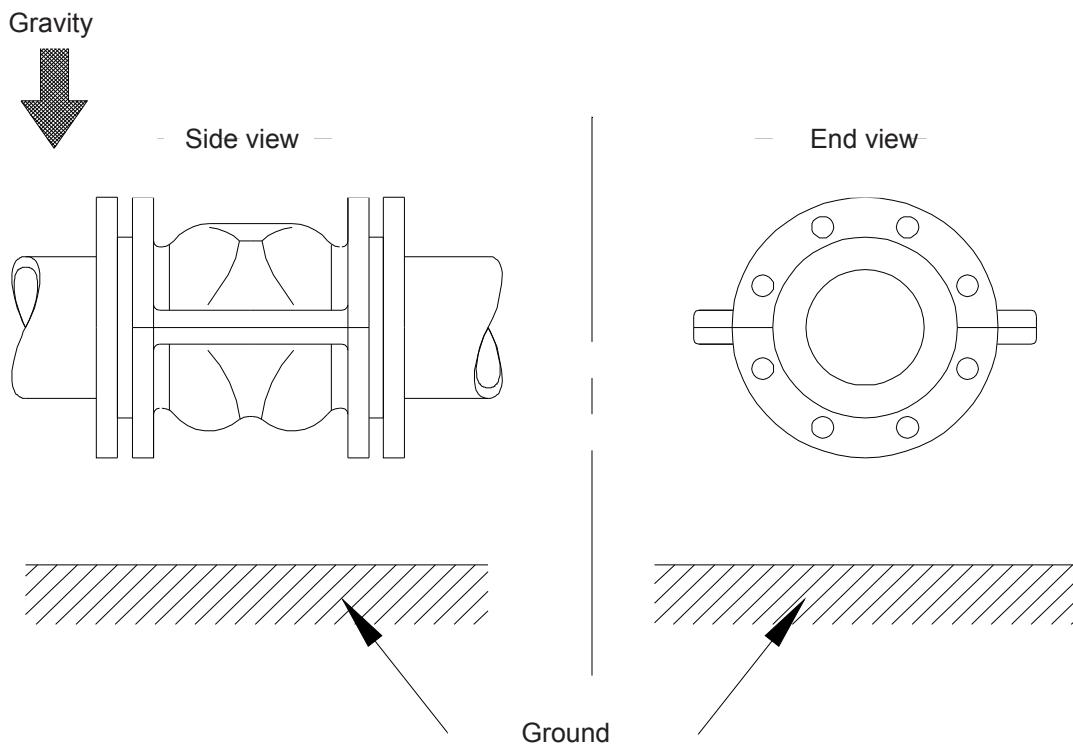

Figure 2-2: Installation Orientation for Horizontal Pipe
- 3) For installation onto a horizontal pipeline, be sure that the valve is installed with the split of the valve being horizontal. However in a vertical pipeline, the RVA valve can be installed in any orientation (see figure 2-2).